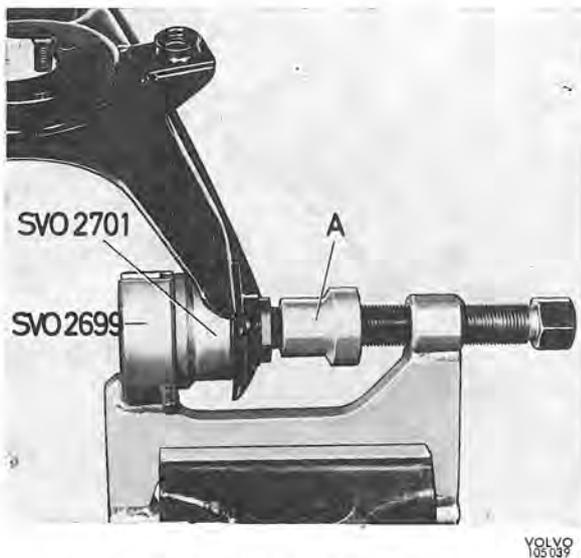

Fig. 6-27. Removing the rubber bush, lower wishbone
1. Tension the press tool SVO 2699 in the vice. Remove the washer (1, Fig. 6-14), the rubber ring (2) and the spacing ring (3). Press the bushes out with counterhold SVO 2701. Use drift SVO 2904 for bushes where diagonal tyres are fitted and SVO 2905 for radial tyres. The tools are placed as shown in Fig. 6-27. The bushes are, of course, pressed out in the direction towards their flanges.
2. Press in the bushes with the wishbone and drift (A, Fig. 6-27) facing in the opposite direction.